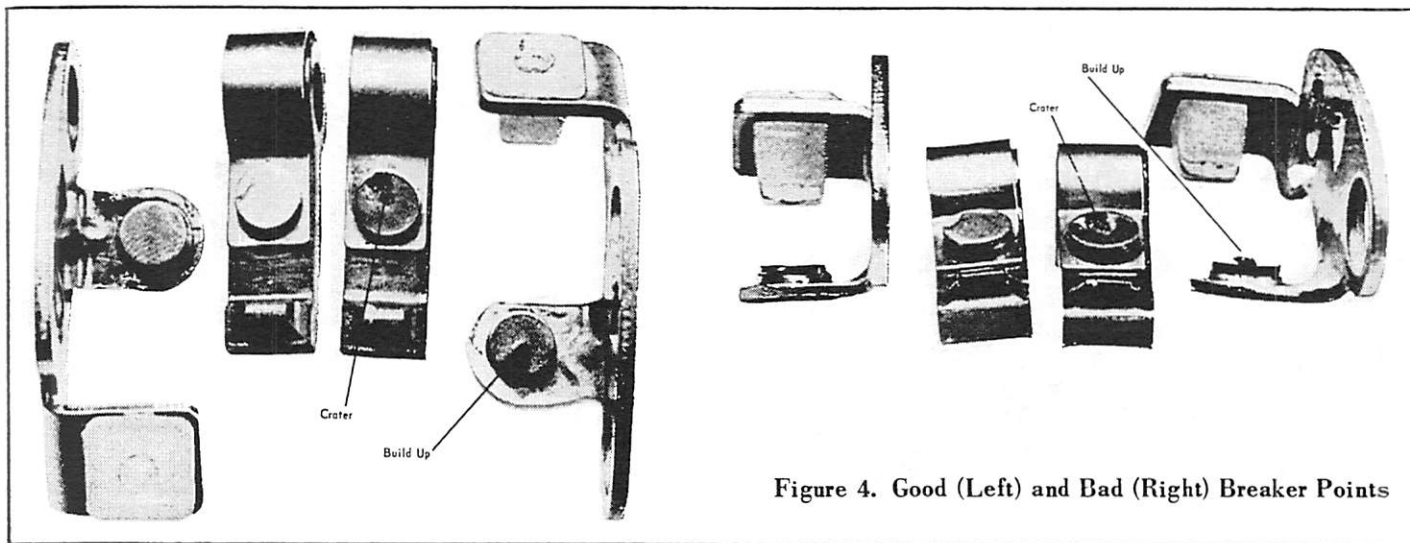

Figure 4. Good (Left) and Bad (Right) Breaker Points
2. Check breaker points for evidence of pitting or pyramiding, as shown in sets of points on right in Figure 4. Sets on left show only discoloration and are in excellent condition.